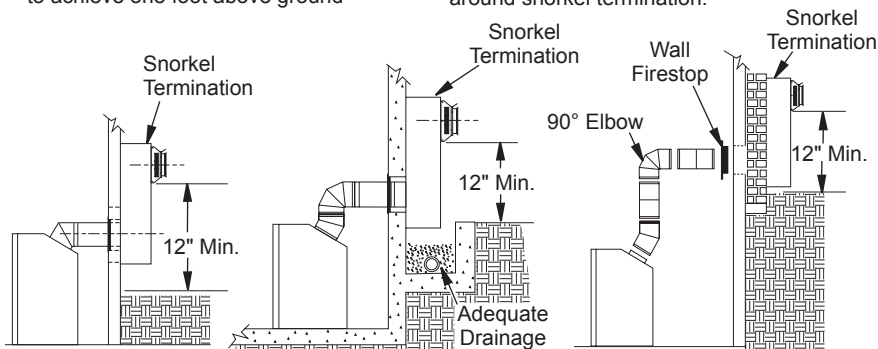

Figure 16 - Snorkel Termination Configurations for Below Ground Installation
- Snorkel terminations are required when minimum clearance to grade cannot be met (see Figure 16 on page 14).
Snorkel terminations are available for installations requiring a vertical rise on the exterior of the building. If installing snorkel termination below grade, you must provide proper drainage to prevent water from entering snorkel termination (see Figure 16). Do not back fill around snorkel termination.